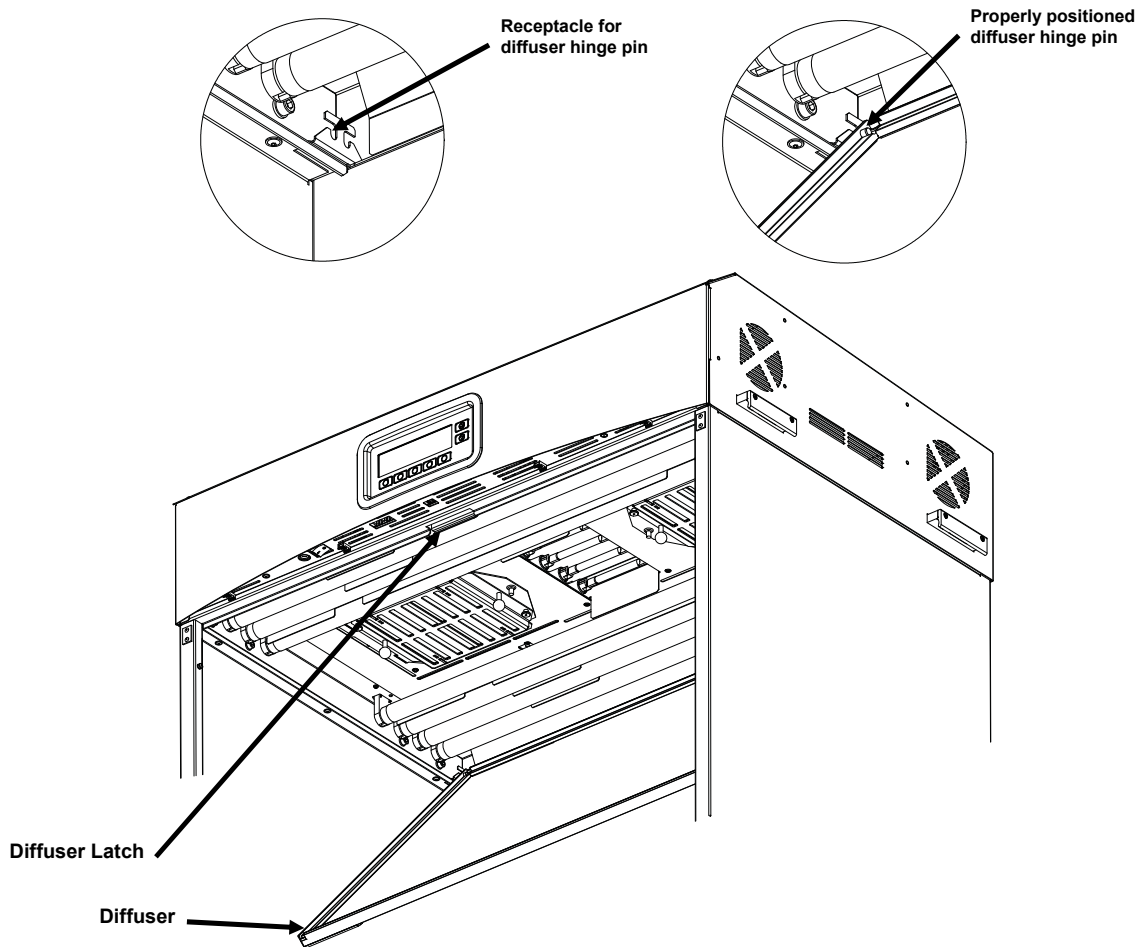

Figure 7. Luminaire Showing Diffuser
9. Insert the diffuser hinge pins at each back corner into the front slot of the receptacles located at the rear corners of the luminaire housing. Refer to figure 7.